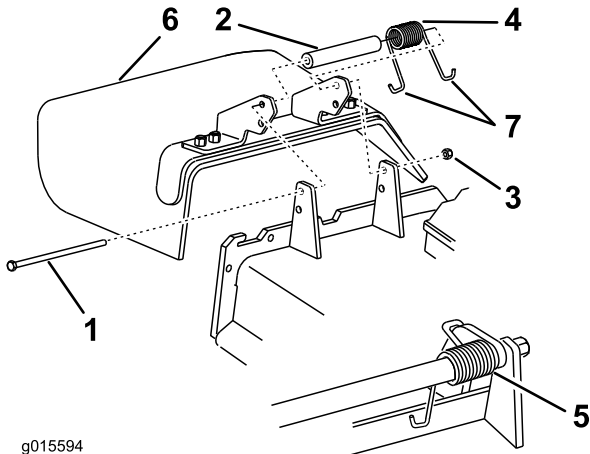

Figure 62
1. Remove the locknut, bolt, spring and spacer holding the deflector to the pivot brackets (Figure 62). Remove damaged or worn grass deflector.
Note: Make sure one J end of spring is installed behind deck edge before installing the bolt as shown in Figure 62.
3. Install bolt and nut. Place one J hook end of spring around grass deflector (Figure 62).